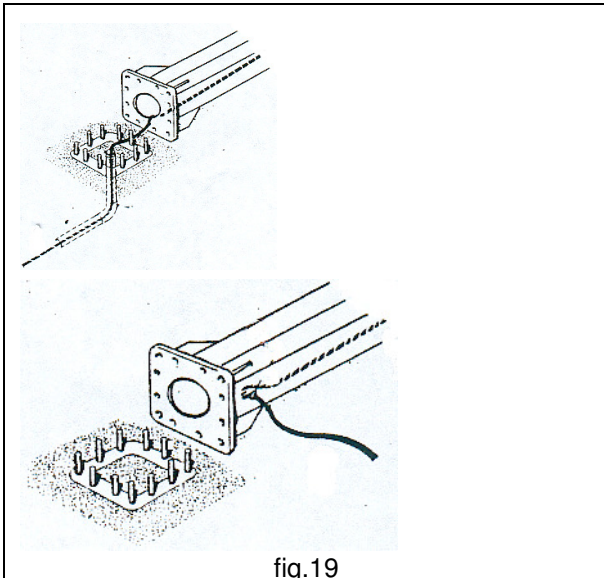

fig.19
2. Insert the electric cable in the column resting on the floor and push it through the collector inspection cover. Make the operation with the column on the floor. On the column there is a hole for the introduction of the electric cable from the external (fig.19).